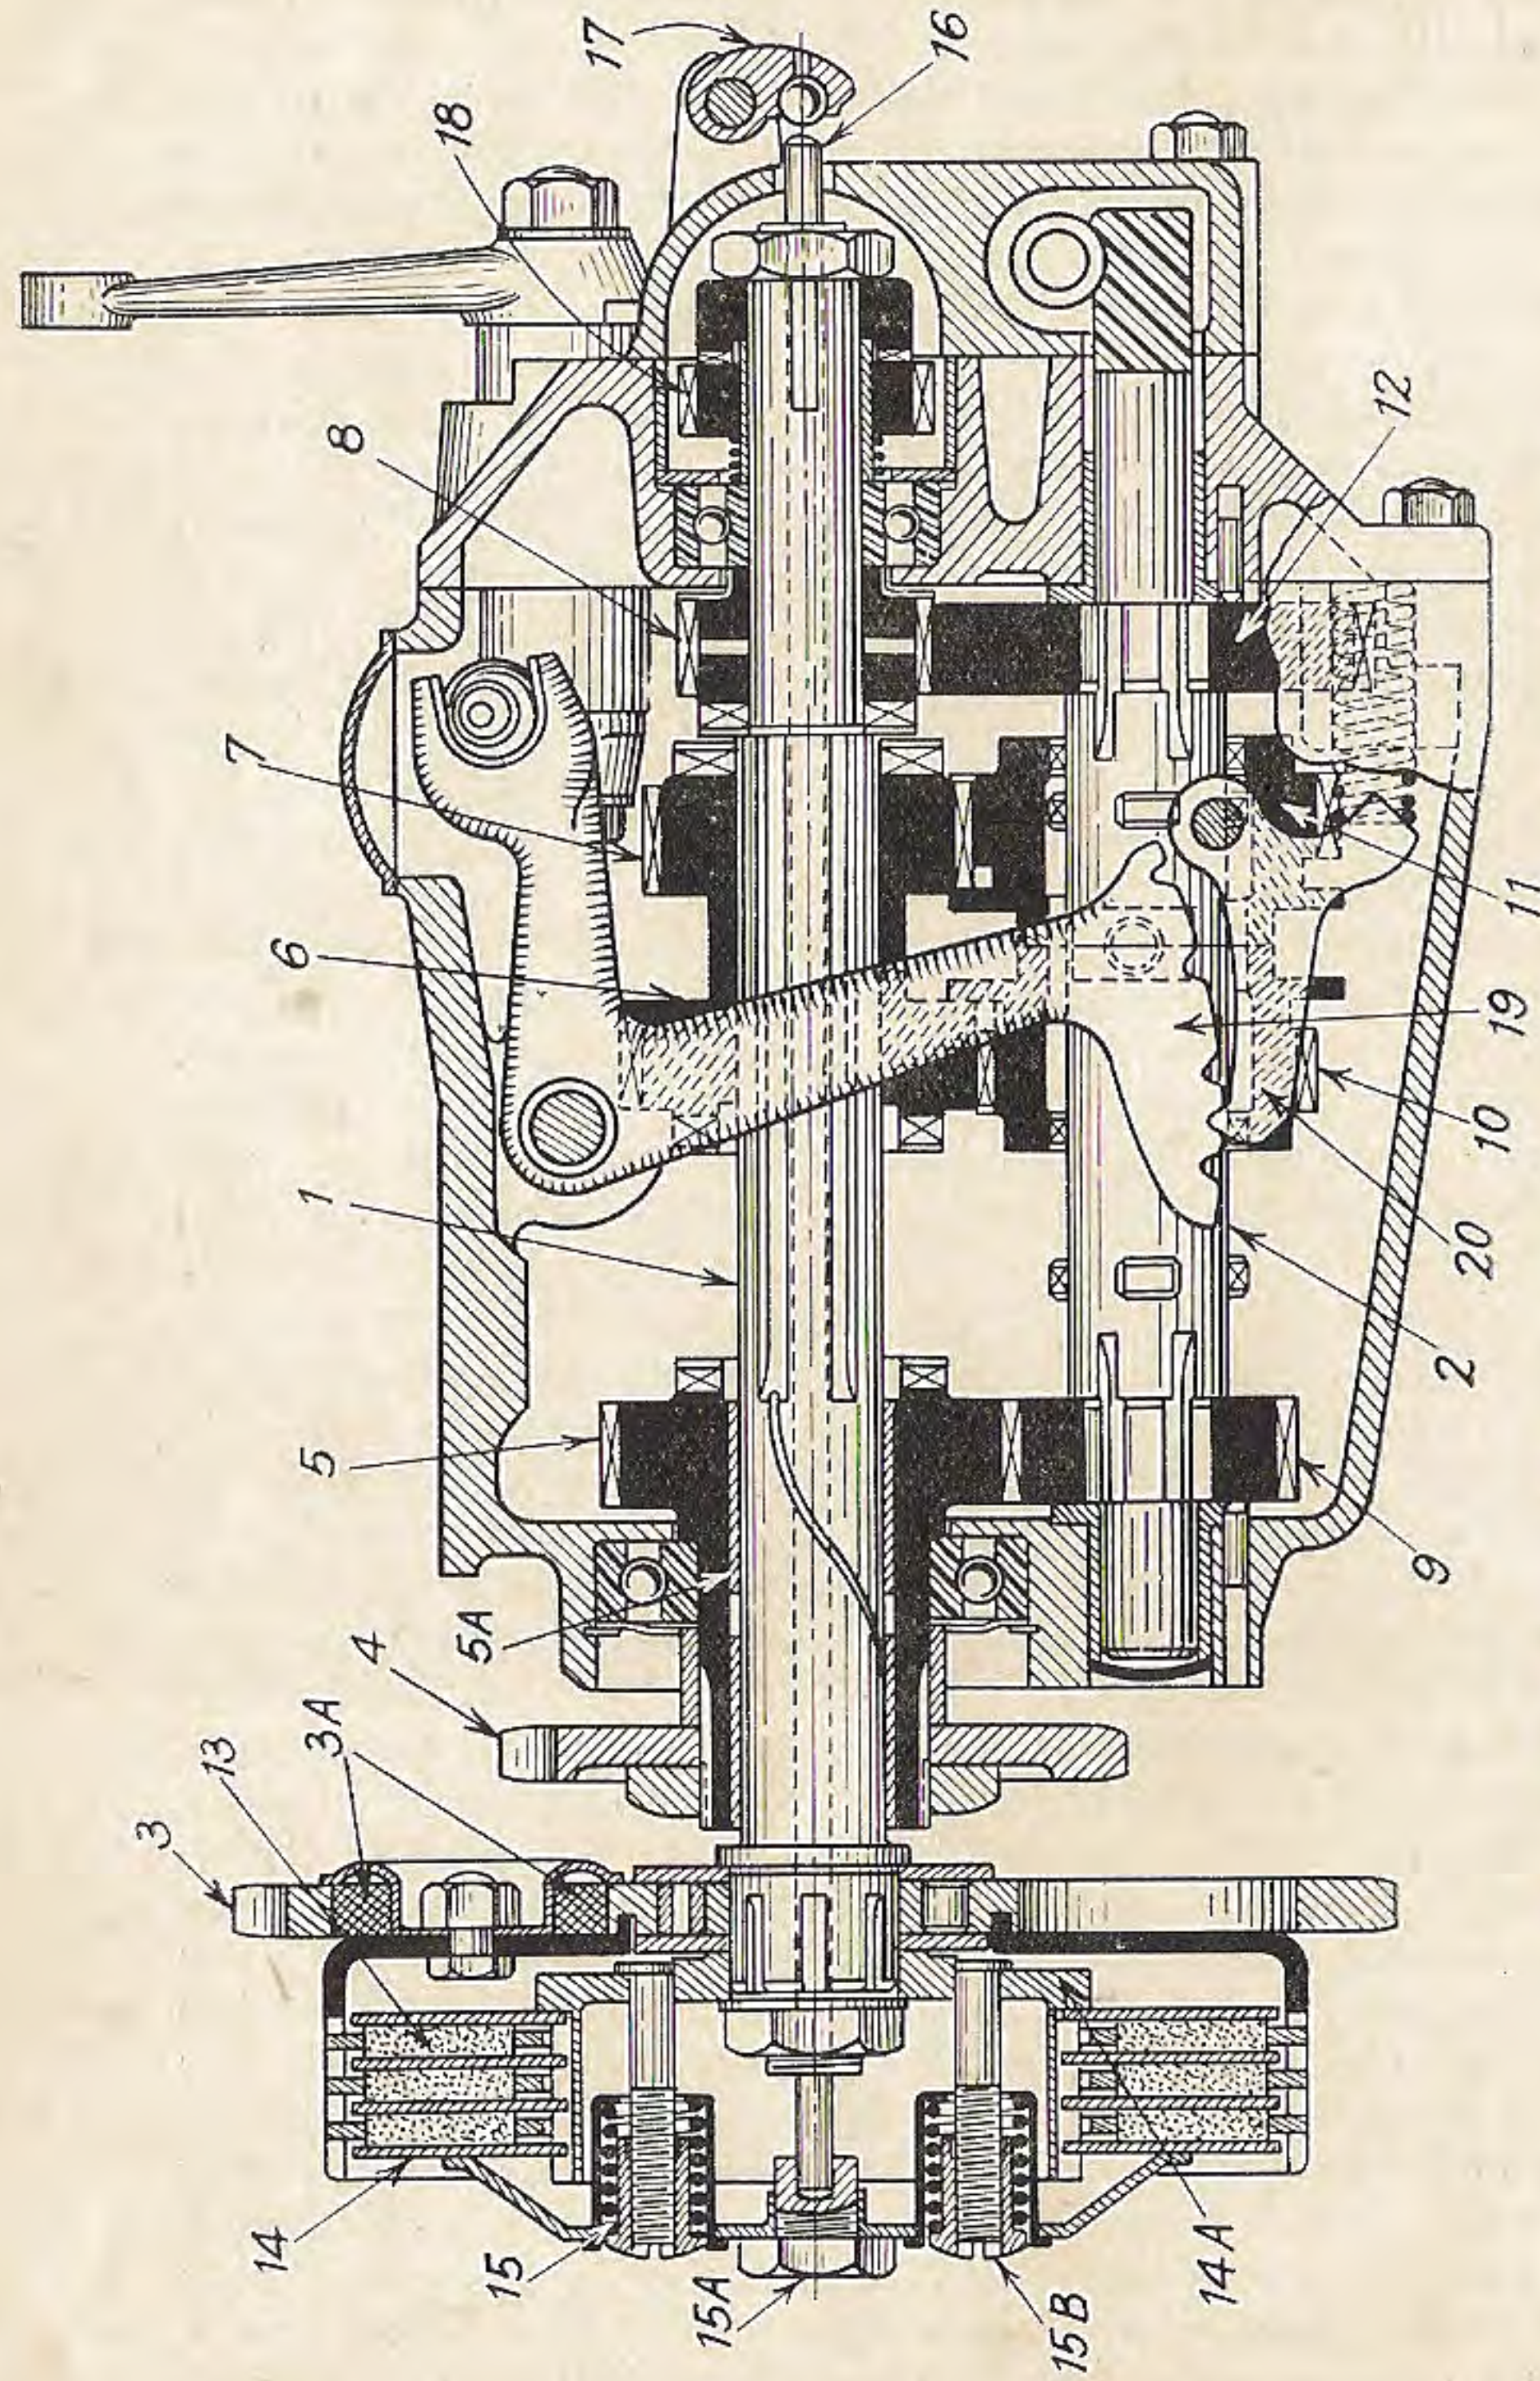

FIG. 90. SECTIONAL VIEW OF BURMAN 4-SPEED GEARBOX AND CLUTCH
The three-speed Burman gearbox (type "WP") has a two-plate clutch and the four-speed model (type "HP") a three-plate clutch. Both gearboxes are of very similar design and have constant-mesh gears of oil-toughened nickel-chrome steel (not case-hardened), the necessary gear changes being obtained by means of dog clutches and locked by a patent rack and pawl mechanism (see Fig. 90) actuated by a bell-crank lever. The kick-starter is not mounted on the layshaft, but on a separate shaft, thus allowing a good second gear ratio to be obtained for starting purposes. The drive is taken through the mainshaft. The clutches are of the multiple-spring type with alternate cork-inserted and plain steel plates, the outer clutch spring plate having a recessed adjusting screw against which the floating plunger in the hollow mainshaft bears. Unlike the Sturmey-Archer clutches, the springs are adjustable for tension and a shock-absorber is fitted in such a way that the drive is transmitted from the clutch sprocket to the clutch through rubber buffers which give a radial movement of approximately $\frac{3}{16}$ in. As may be seen in Fig. 90, to allow for expansion of the buffers dished recesses are provided.
Referring to Fig. 90, the action of the four-speed gearbox will be seen to be very simple. The mainshaft is splined for its whole length and the layshaft for only two short distances. Pinions 6, 7, 10, 11, are moved simultaneously by the striker 19 and pinions 9, 12 are keyed to their shafts. To obtain neutral the four sliding pinions are moved into the position shown, where both layshaft pinions are free of the layshaft splines. To obtain first gear the sliding pinions are moved to the extreme right so that the dogwheels 7, 8 are coupled and the drive is transmitted from the mainshaft to the gearbox sprocket 4 through pinions 8,
Burman Clutch Adjustment. If clutch slip occurs, first suspect the clutch cable adjustment and if necessary adjust until there is the requisite $\frac{1}{32}$ in. clearance between the clutch rod (16, Fig. 90) and the ball in the actuating lever (17). If the cable adjuster is already screwed right home, the necessary clearance can be obtained by unscrewing the adjuster screw (15A) a trifle. Should clutch slip persist, it is probable that the spring adjuster nuts (15B) require tightening up and each of these should be given half a turn, when a retrial should be made. If necessary, repeat, but be careful to tighten all the nuts uniformly. The correct adjustment is normally seven complete turns from right home.
Should the clutch become difficult to free in spite of the cable not having stretched, wear may have occurred on the clutch rod, in which case the adjusting screw (15A, Fig. 90) should be slightly tightened up. The trouble may, however, be due to the clutch springs being over-tightened. A tendency for the clutch spring adjusting nuts to become unscrewed means that the springs have become fastened by means of mud or rust to the nuts, and the remedy is to clean the springs and nuts and also to polish the ends of the springs and grease them. If relative movement develops between the clutch sprocket and case, it indicates that the rubber buffers (3A) are worn and require renewal. A tendency for both the clutch sprocket and case to "rock" from side to side indicates that the roller race inside the clutch sprocket needs a new set of rollers. Only $\frac{1}{64}$ in. end play is permissible. Excess play
unscrew the spring adjusting nuts (15B, Fig. 90) and remove the springs, spring cups, and take off the spring plate, when the other plates may be withdrawn. If desired, the complete clutch assembly may be removed after taking off the spring plate by unscrewing the nut holding the clutch body on the castellated mainshaft.